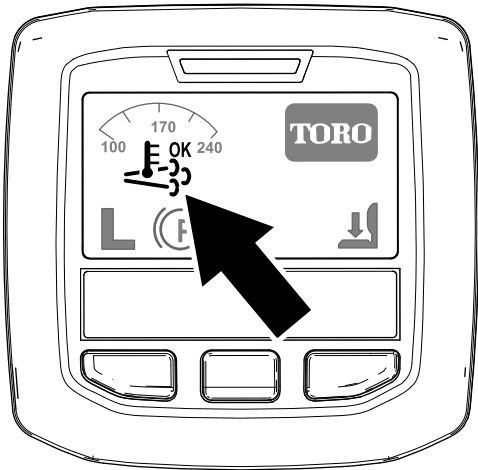

Figure 39
- The assist/reset-regeneration icon displays in the InfoCenter (Figure 39).